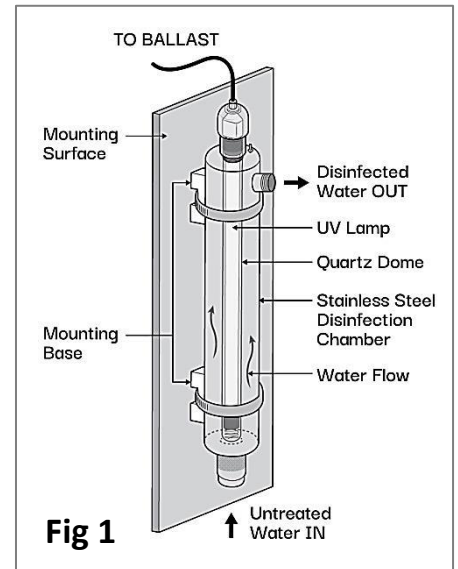

Fig 1
Your Rainfresh UV system consists of a low-pressure UV lamp enclosed in a transparent quartz dome, housed in a stainless steel disinfection chamber. As untreated water enters the chamber from one end, pathogenic microorganisms in the water are exposed to and instantly destroyed by ultraviolet light emitted by a specially engineered UV lamp. Treated water flows out of the chamber and is ready for consumption. See Fig 1.
- For optimum performance, the system should be wall-mounted in a vertical position with the lamp connector at the top. The water inlet is at the bottom and the outlet at the top, as shown in Fig. 1. The system can be installed horizontally but cannot be drained fully in that position and there is a higher probability of breaking the quartz dome during service.